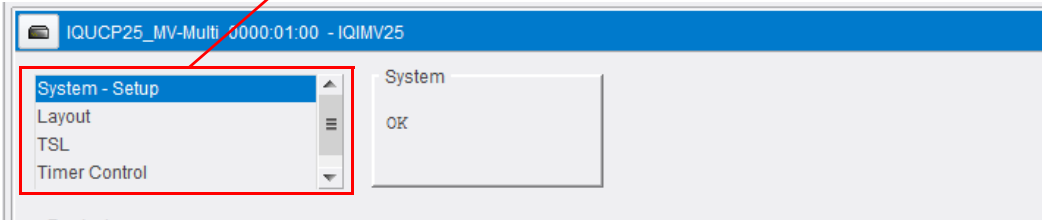

Fig. 4-62: Template Selection Box
- click on the template name in the **Template Selection** box. See Figure 4-62.